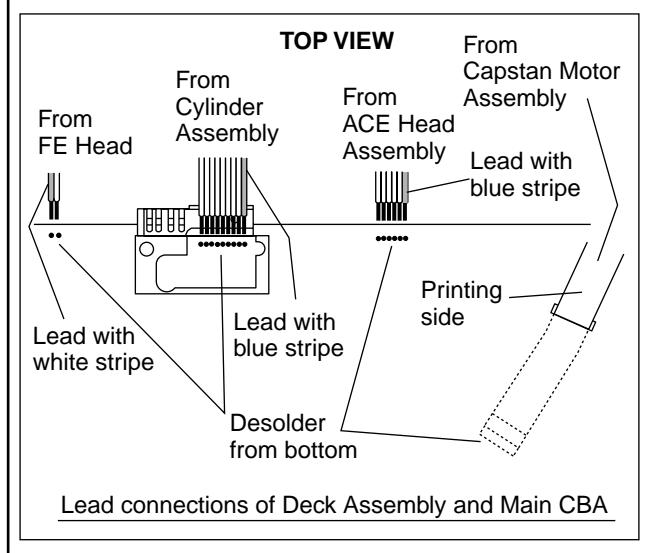

Fig. D5
2. When reassembling, solder wire jumpers as shown in Fig. D5.